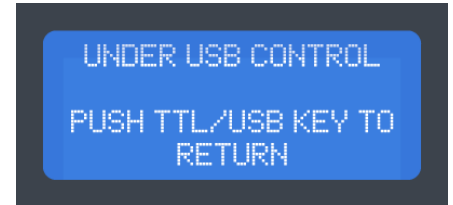

Fig. 19
1. Press the "TTL / USB" () button once. Upon pressing this button, the display will show the Iris Status Screen if you have toggled the TTL external control input, or the screen shown in Fig. 19 if you have toggled the USB external control input.